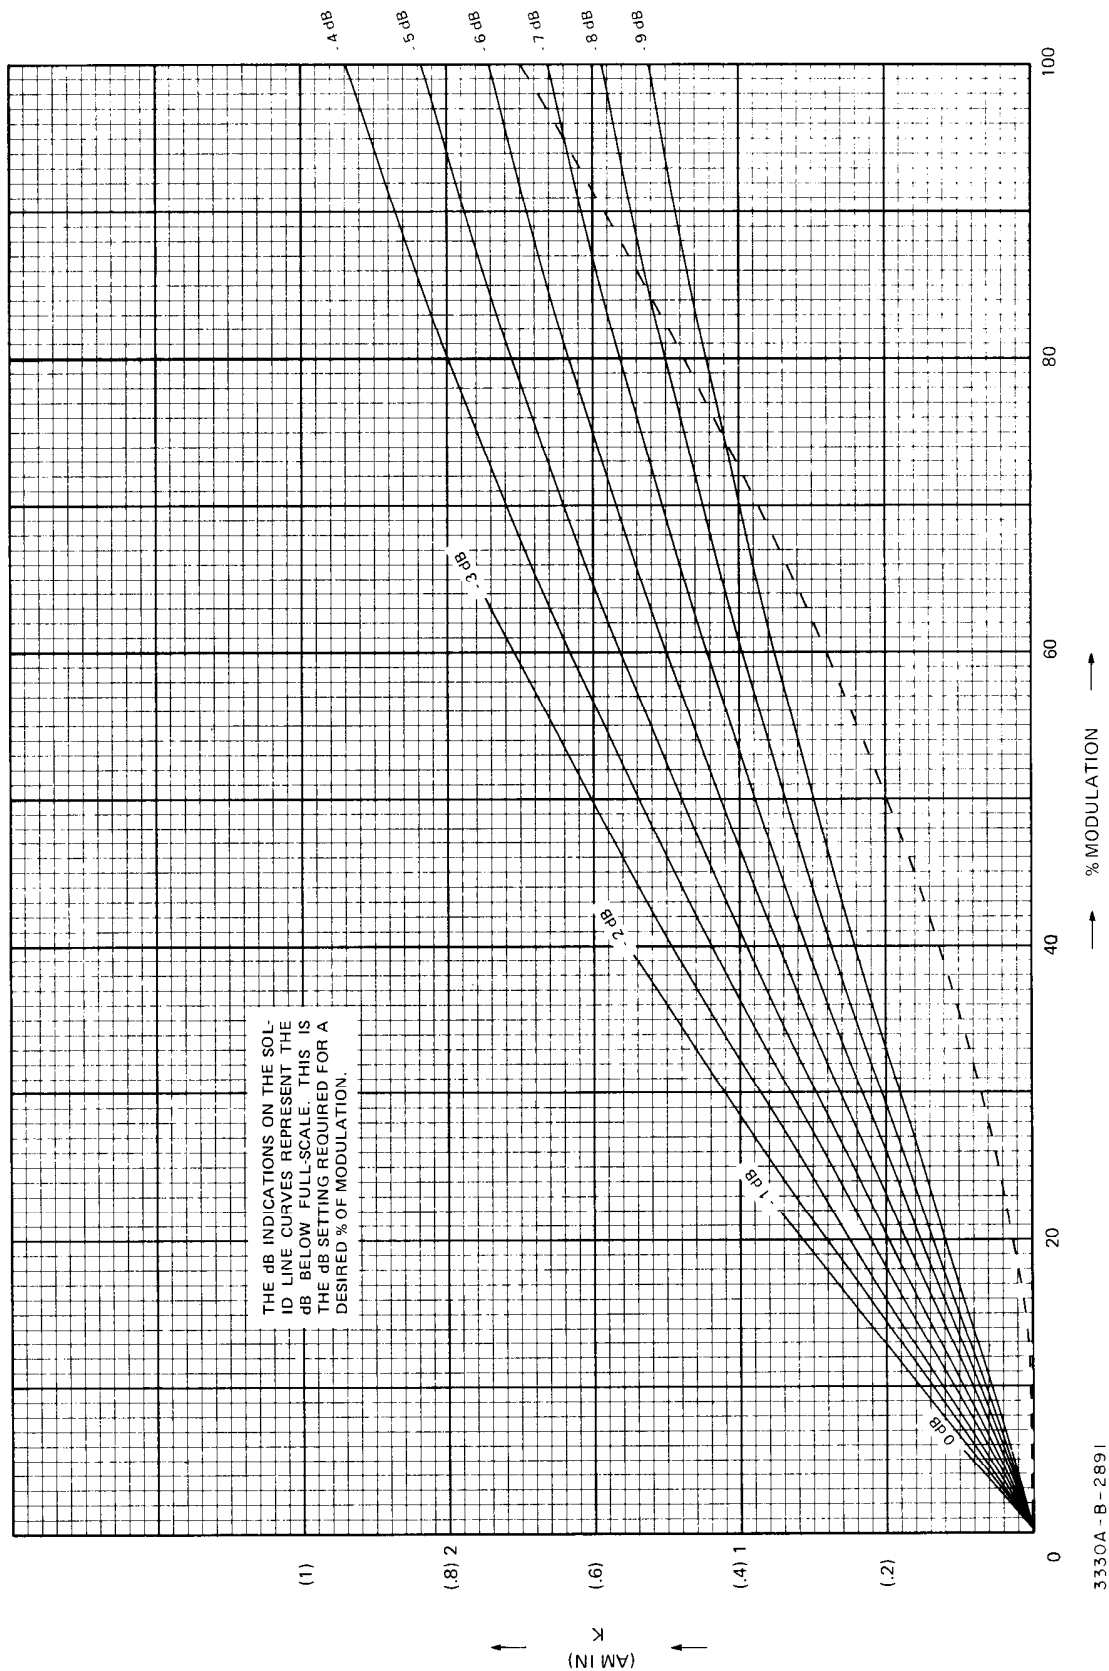

Figure 3-1. AM IN.
**3330B:** When an amplitude modulating signal is applied, the output power level is a combination of the carrier power and sideband power. The 3330B output is monitored by a thermal detector circuit, which is a constant power device. Therefore, when the amplitude modulating signal is applied, the carrier level is decreased to maintain a constant power level. Conversely, if the 3330B front panel amplitude control settings are changed to increase or decrease the carrier level, the sideband levels are decreased or increased accordingly. It is recommended that an oscilloscope be used at the 3330B output to observe the modulated signal and determine the percent of modulation. Because the characteristics of each instrument are slightly different, the curves shown in Figure 3-1 are an approximation of the AM voltage input needed in a standard instrument for the percent of modulation desired. The dB figure of each solid line curve represents the dB level below the highest output of each 10 dB step of the output attenuator. For example, the - 4 dB curve would apply for a front panel amplitude setting of + 9.44 dB, - 0.56 dB, - 10.56 dB, etc.
The broken-line curve of Figure 3-1 can be used to determine the carrier level out of the 3330B for a given percent of modulation. The vertical axis labeled K represents the dB loss in carrier level due to the modulating voltage. Subtract this reading from the 3330B front panel amplitude setting to find the output carrier level.